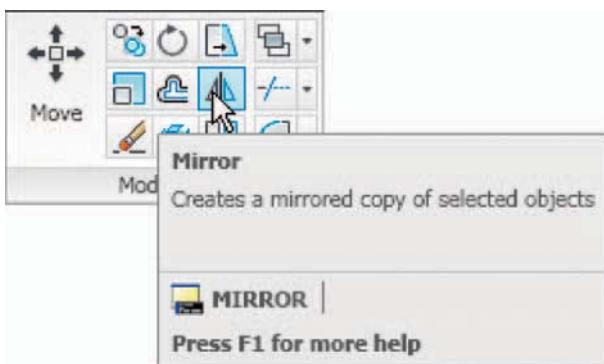

Fig. 5.8 The Mirror tool from the Modify toolbar
2. Call the **Mirror** tool – *left-click* on its tool icon in the **Home/Modify** panel (Fig. 5.8), pick **Mirror** from the **Modify** toolbar or from the **Modify** drop-down menu, or *enter mi* or **mirror** at the command line. The command line shows: